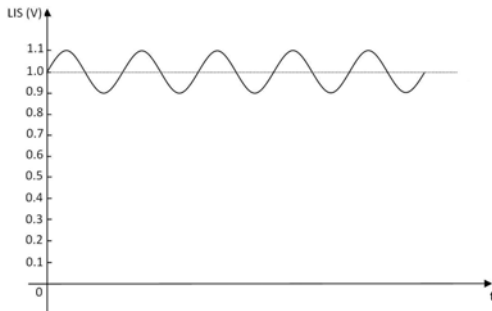
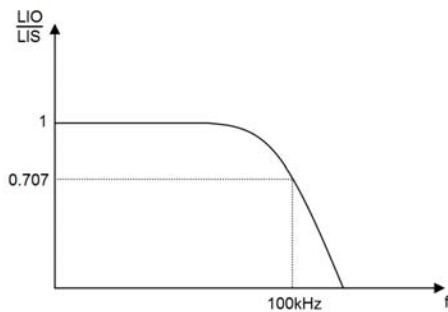

Figure 8.1 Small Signal Modulation
Figure 8.2. The Ratio of LIO/LIS
As shown in Figure 8.1, add a sine signal of 1V DC + 0.2 VP-P AC (the frequency increases generally) to LIS and then measure the AC voltage on LIS and LIO. The AC voltage ratio of LIO (AC)/LIS (AC) is 0.707 at the frequency of around 200kHz, see Figure 8.2